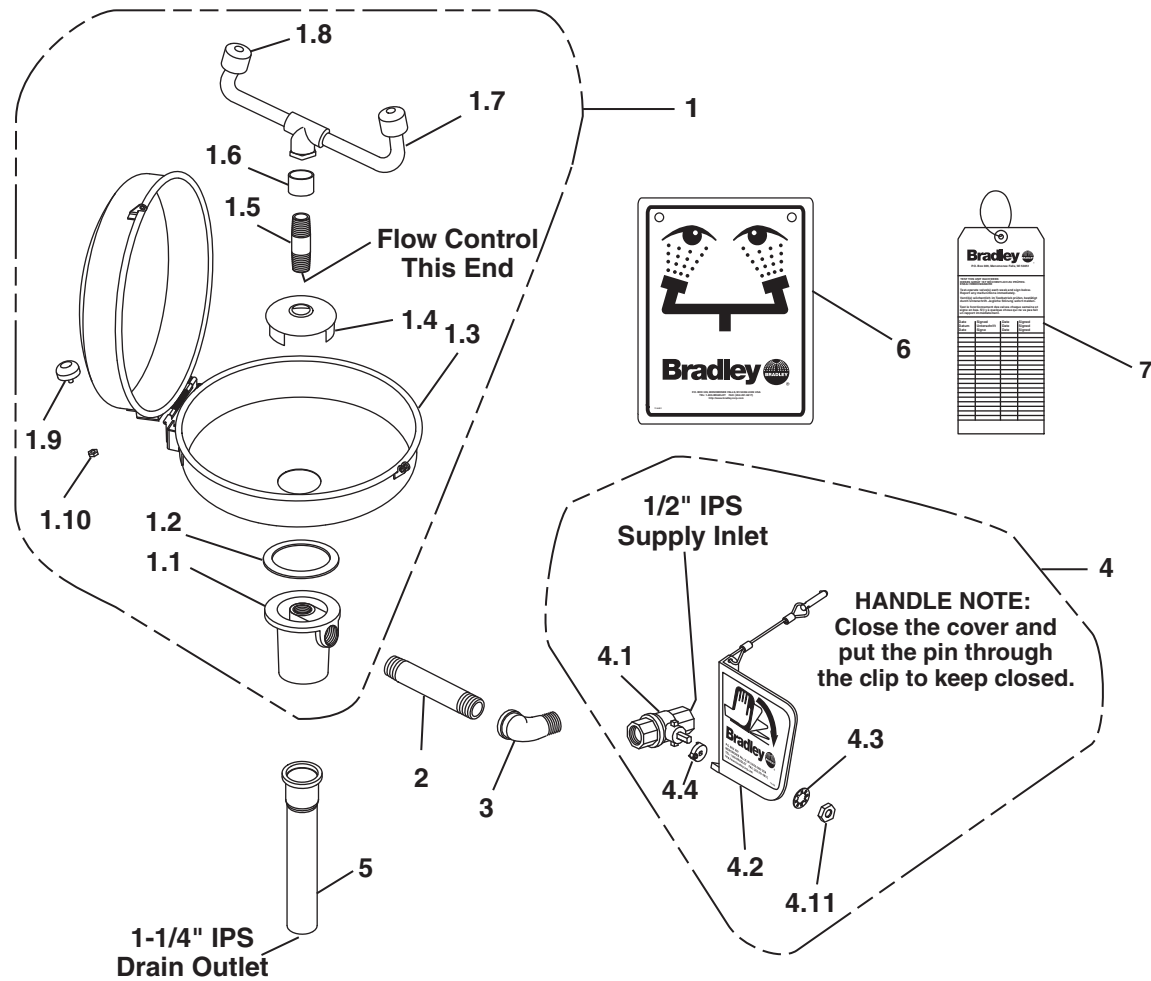

Figure 2
1. Assemble eyewash components as shown in Figure 2 on page 4.
1. Connect the assembled eyewash to the 1/2" IPS inlet supply and 1-1/4" IPS drain (supply and drain piping supplied by installer) (see Figure 2).